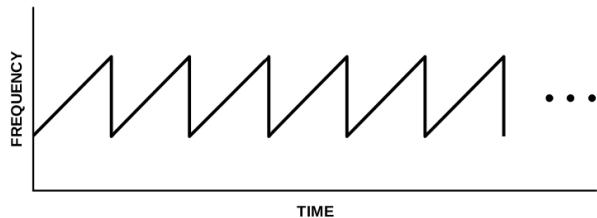
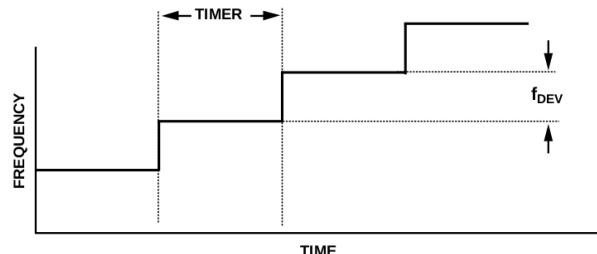

Figure 2.8: Sawtooth ramp.
Figure 2.9: Waveform timing.
The ADF4158 is capable of producing several different waveforms. The one used in this design is a sawtooth ramp in frequency as a function of time, shown in Figure 2.8. There are 3 different parameters that determine the shape of a ramp: (1) frequency deviation (the amount the frequency increases at each time step), (2) timeout interval (the amount of time between each time step) and (3) the number of time steps. This is shown diagrammatically in Figure 2.9. The equations governing these parameters are given in Equation 2.7. The number of steps is set directly in register 6. In our configuration  $f_{DEV} = 300\text{kHz}$  and Timer =  $0.5\mu\text{s}$ , which given that the number of steps is equal to 2000 and the starting frequency is 5.3GHz, the sawtooth will ramp from 5.3GHz to 5.9GHz in 1ms. We also use a delay between bursts of 2ms. Equation 2.8 is used to derive this.